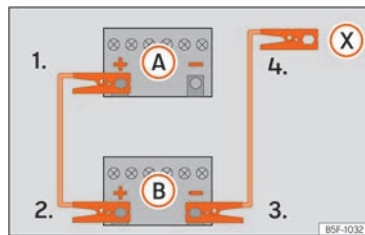

Fig. 191 Diagram of connections for vehicles without Start Stop system
4. *Vehicles without a Start-Stop system:* connect one end of the black jump lead to the negative terminal  of the vehicle providing the current  » Fig. 191.